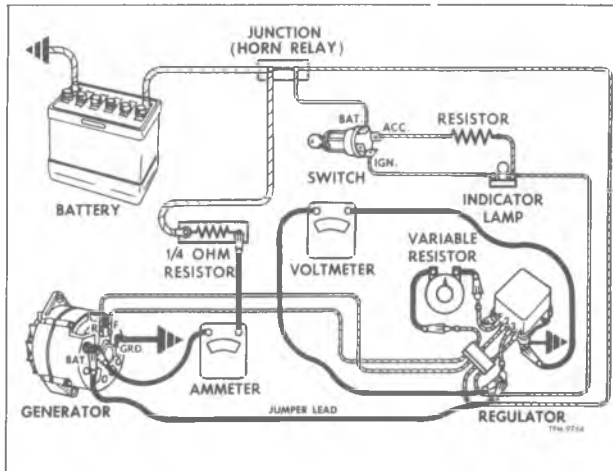
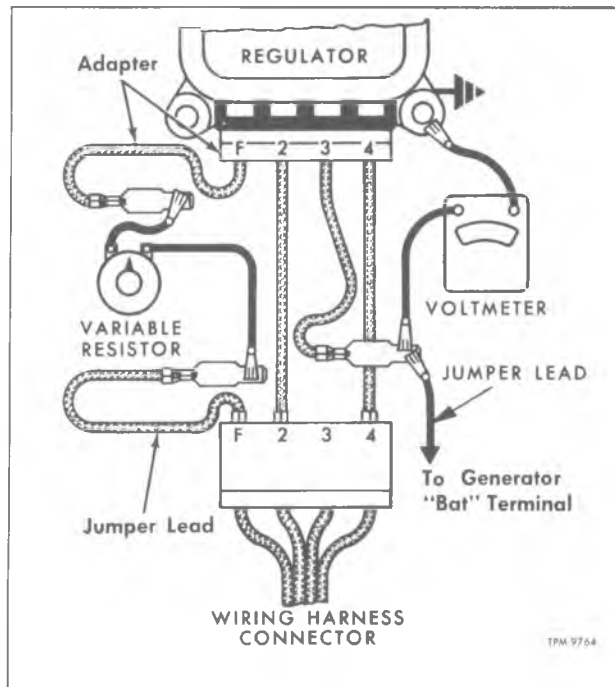

Figure 14—Connections for Testing Regulator Voltage Setting (Two-Unit Type Regulator)
Figure 15—Testing Voltage Setting (Two-Unit Regulator)
1. Refer to figure 14 which shows all test equipment connected into system. Figure 15 shows use of special adapter and jumper lead at regulator.
2. Connect an ammeter and a  $\frac{1}{4}$ -ohm resistor with a rating of 25 watts or more in series in the circuit at the "BAT" terminal on the generator (fig. 14). In the event the battery is discharged, the  $\frac{1}{4}$ -ohm resistor will limit the generator output to 10 amperes or less which is required, when checking and adjusting the voltage setting.
3. Install special adapter as shown in figure 14. Use a 25 ohm 25 watt variable resistor in series with the generator field windings at the regulator "F" terminal, and connect a jumper lead from the #3 adapter lead to the generator "BAT"